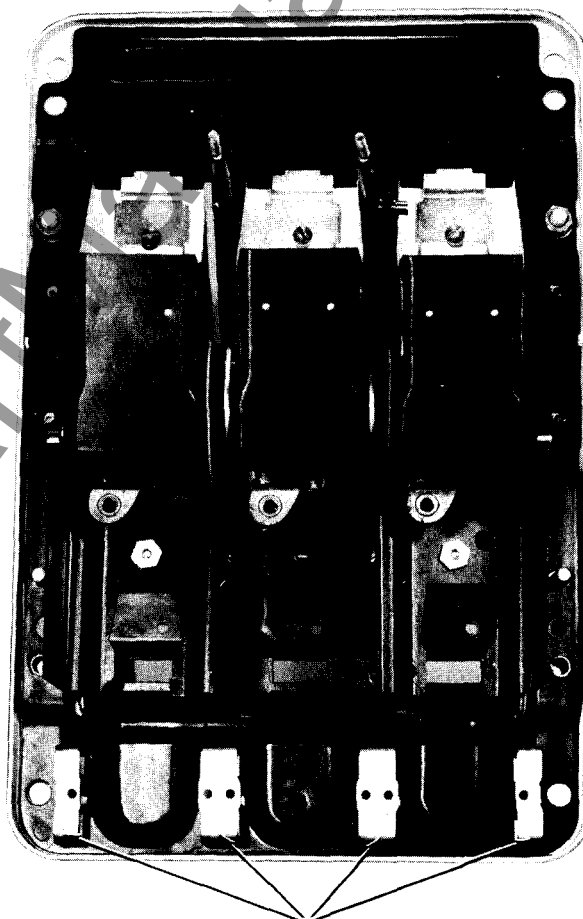

**Fig. 1 — Front view of front frame
7. On electrically operated breakers equipped with EC trip devices, the “Y” relay is mounted on the front frame at the right side of the operating mechanism. To provide mounting space for the MicroVersaTrip® RMS-9 flux shift trip device, remove the “Y” relay and remount it on the left end of the arc quencher retainer as shown in Figs. 1 and 2 (using hardware and parts included). Modify the breaker’s wiring harness to suit.